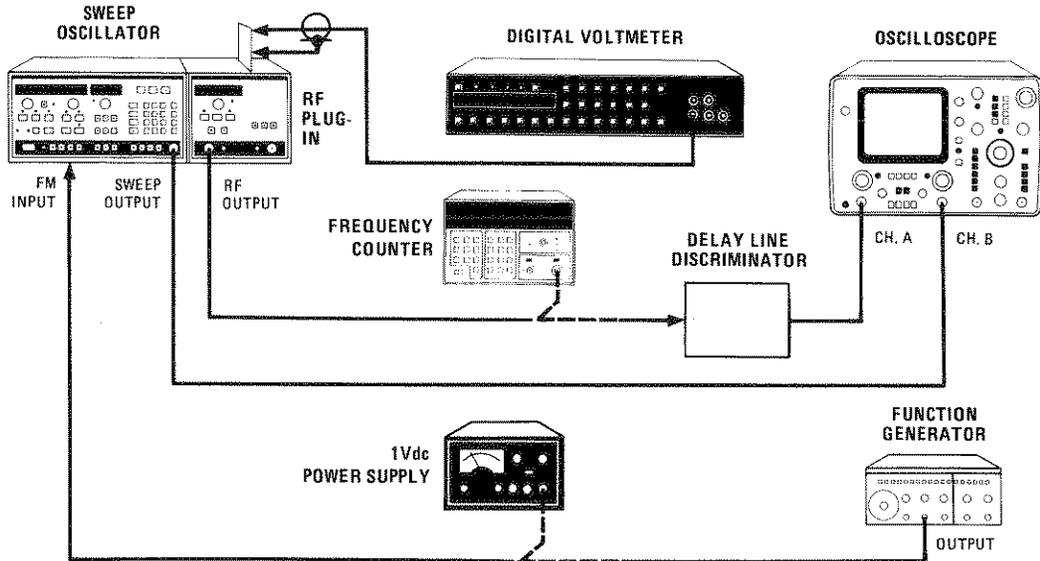

Figure 5-39. Test Setup for FM Driver Adjustments
1. Connect the equipment as shown in Figure 5-39. Connect the Frequency Counter to the 83595A RF OUTPUT connector. Do not connect the Power Supply or Function Generator to the 8350A rear-panel FM INPUT connector yet. Allow the equipment to warm up for one hour.